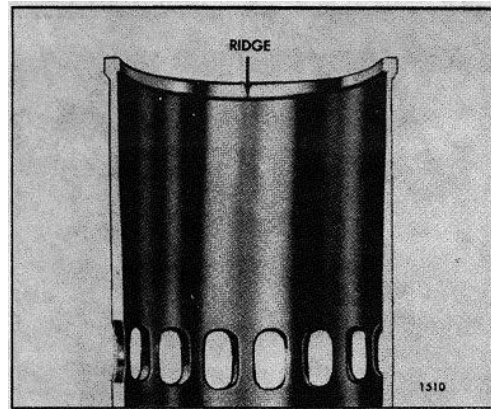

Fig. 6 · Cylinder Liner Ridge Due to Wear
2. To remove the ridge (Fig. 6) formed at the top by the piston ring travel.